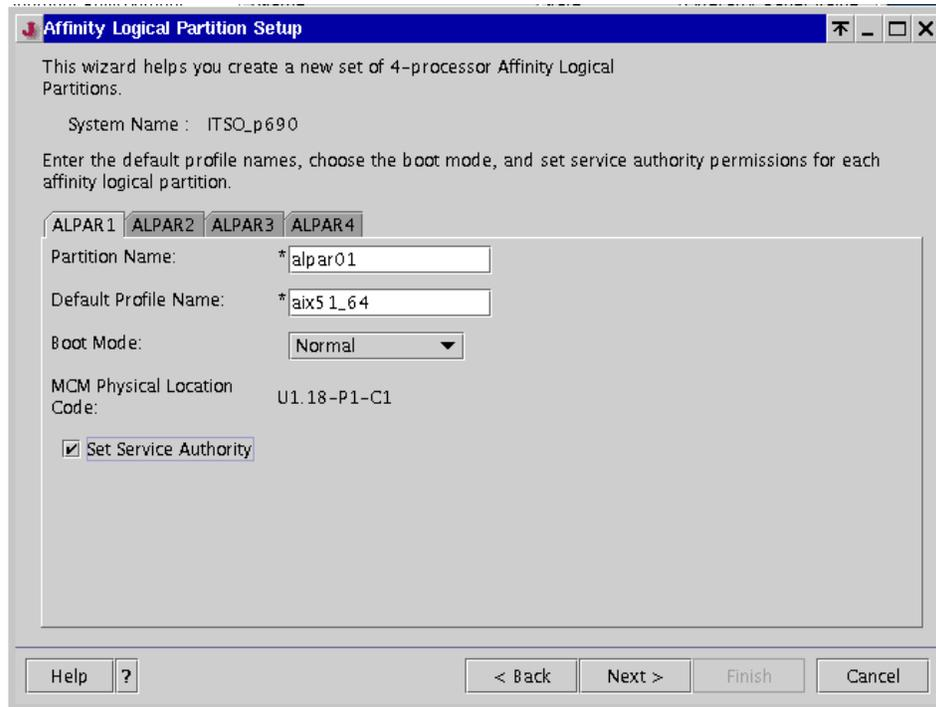

Figure 6-15 ALPAR partition and profile name
- Specify the partition and partition profile names for all affinity logical partitions, as shown in Figure 6-15. Then, click **Next**.